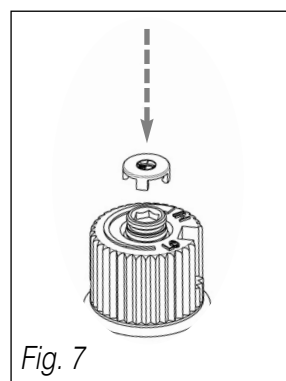

Fig. 7
- Re-assemble the black protection cap (fig. 7).